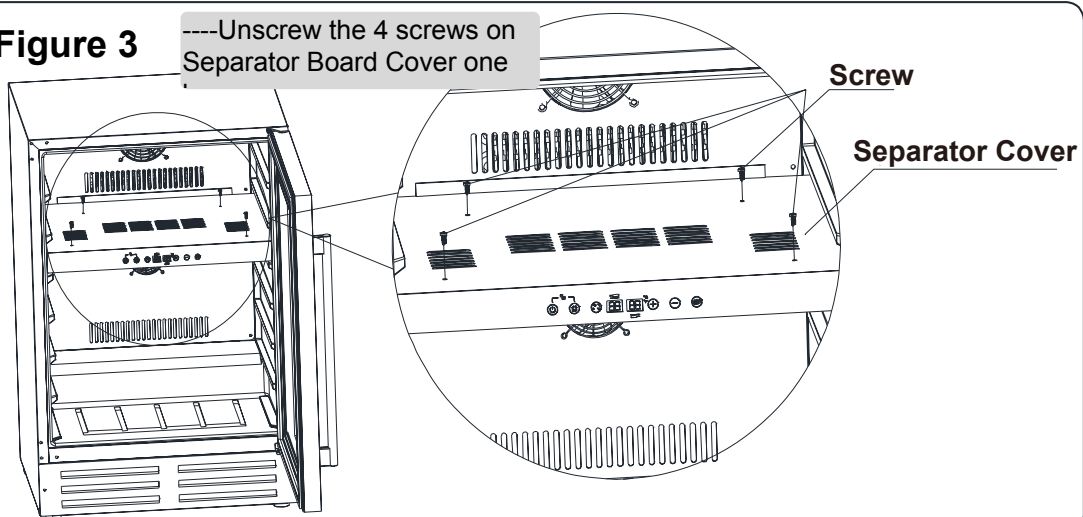

Figure 4
- Unplug Connectors of Fan, LED Light and Control PCB carefully, which are fixed on Separator (**Figure 4**);